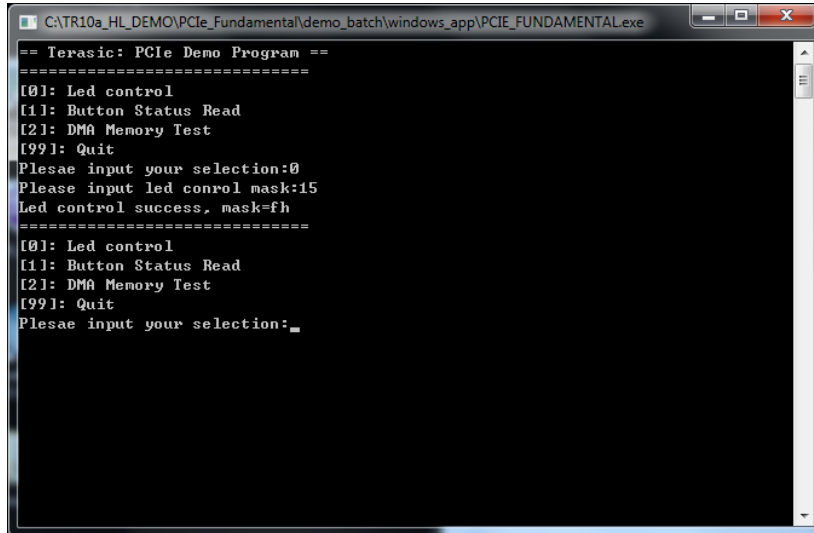

Figure 7-12 Screenshot of LED Control
7. Type 0 followed by a ENTERY key to select Led Control item, then input 15 (hex 0x0f) will make all led on as shown in **Figure 7-12**. If input 0(hex 0x00), all led will be turn off.